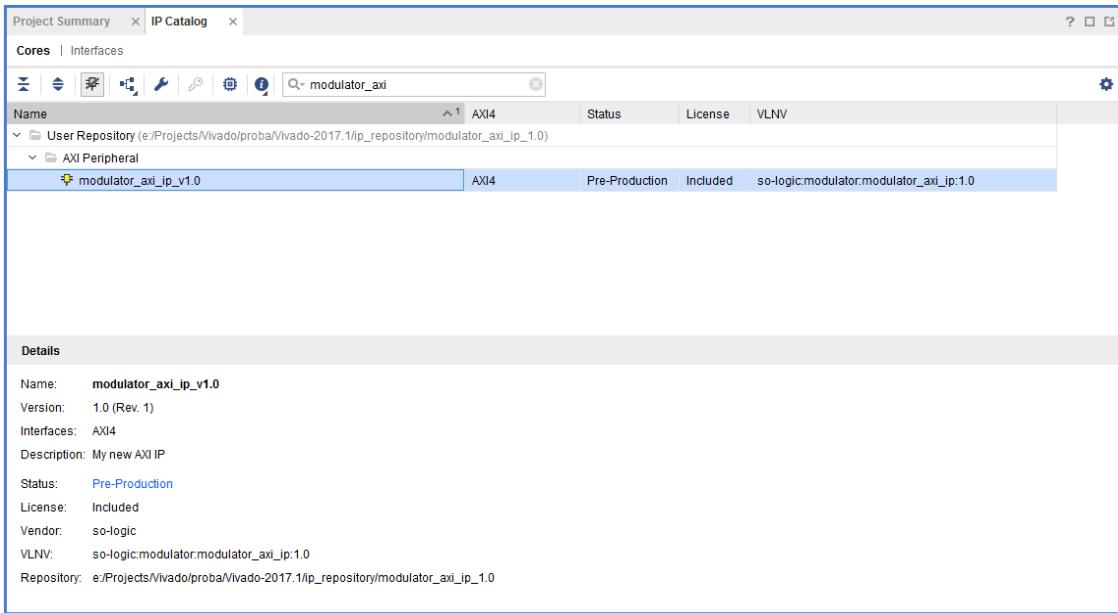

Figure 12.88: IP Catalog with modulator_axi_ip IP
31. Open **IP Catalog** and search for **modulator_axi_ip** IP, see Figure 12.88. When you find it, double-click on it to customize and generate the IP.